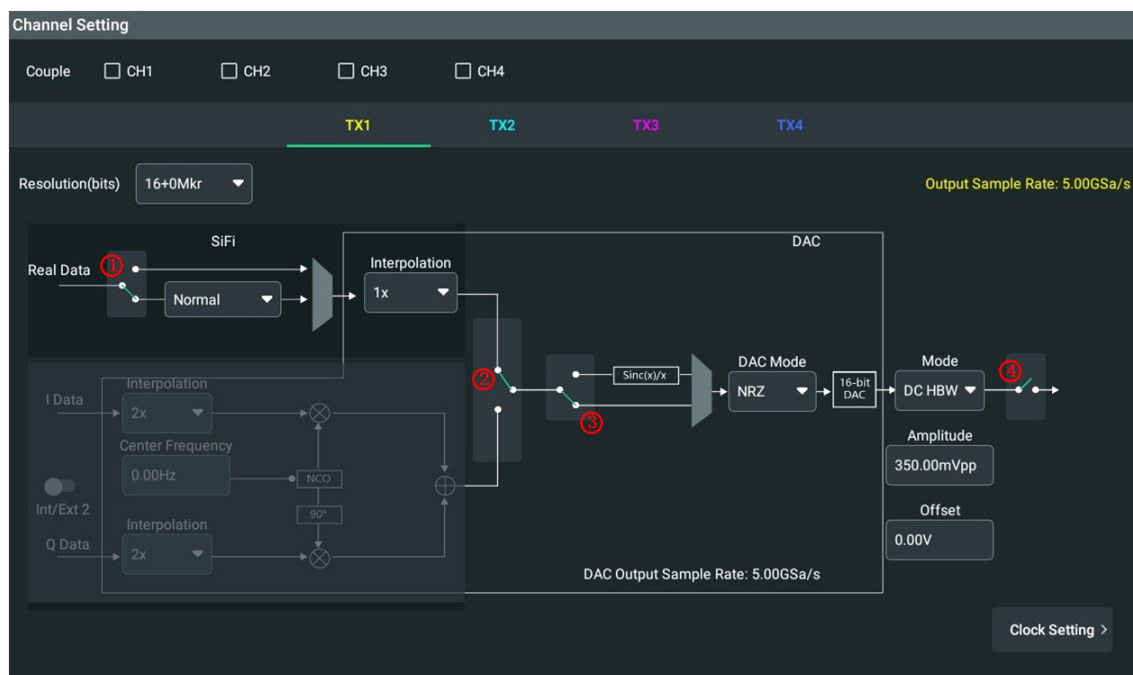

Figure 11.2 "Channel Setting" Menu
As shown in *Figure 11.2*, in "Channel Setting" menu, if the switch ④ is up, the channel is disabled with no signal output. Click or tap the switch ④ to go down. Then the channel is enabled for signal output. At this time, its output connector LED indicator and the photoelectric encoders of the operating knobs on the front panel are illuminated.